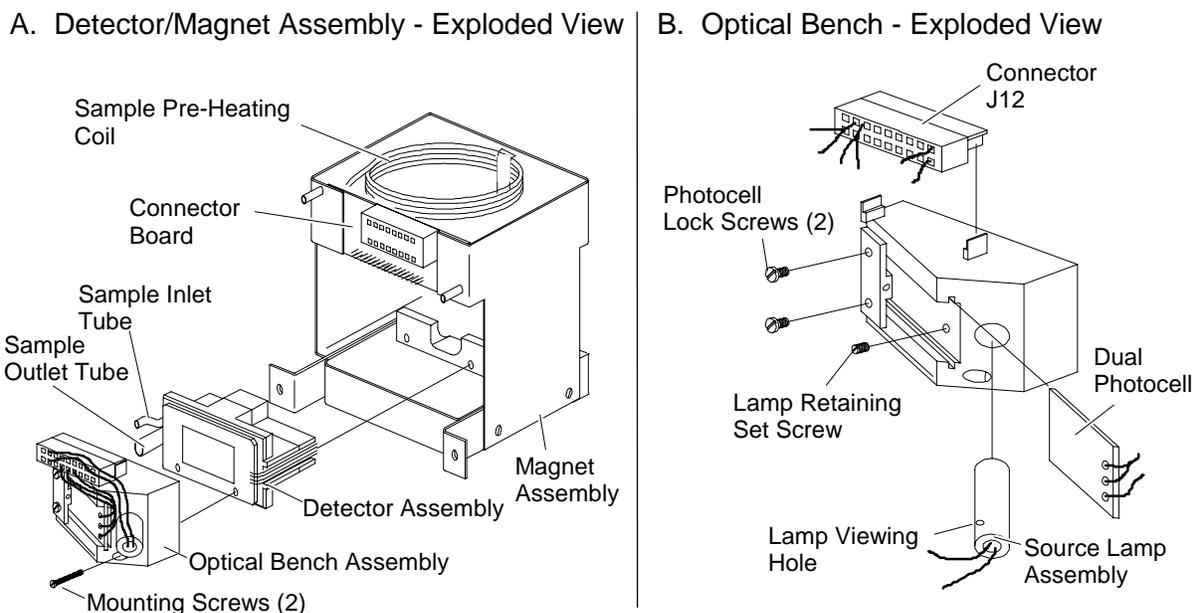

FIGURE 7-1. DETECTOR/MAGNET ASSEMBLY
3. Refer to Figure 7-1. Using needle-nose pliers, squeeze the hose clamps to disconnect the rubber sample lines from the metal inlet and outlet tubes of the detector assembly.